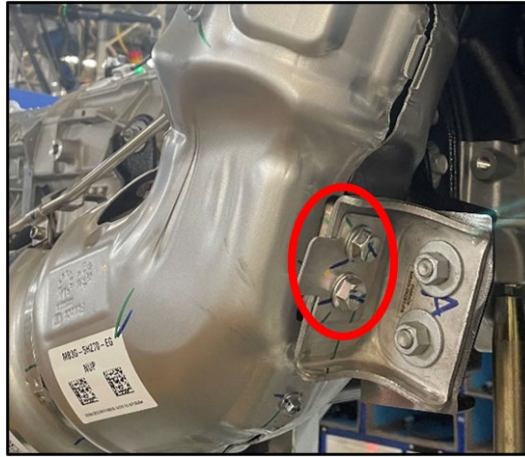

FIGURE 19
19. Torque the 2 PIA bracket bolts Refer figure 19